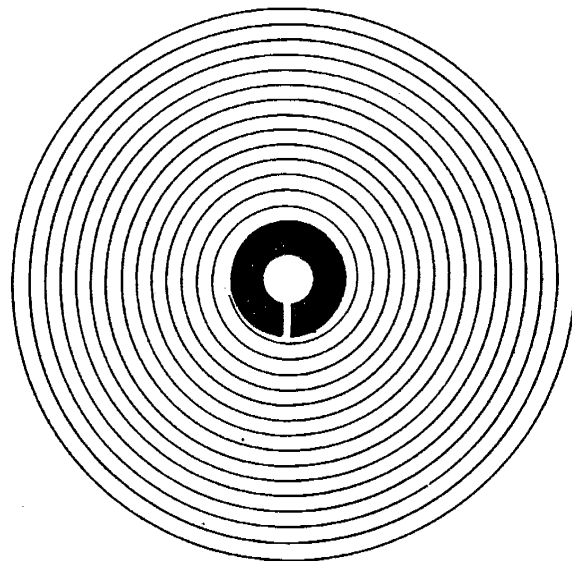

Fig. 20-27
4. Vibrate accurately and break off one coil too large, figure 20-27.